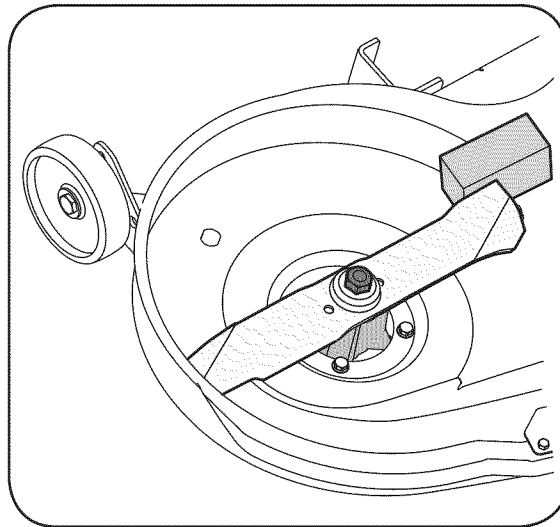

Figure 23
2. Place a block of wood between the center deck housing baffle and the cutting blade to act as a stabilizer. See Figure 23.
3. Use a 15/16" wrench to remove the hex flange nut that secures the blade to the spindle assembly. See Figure 23.